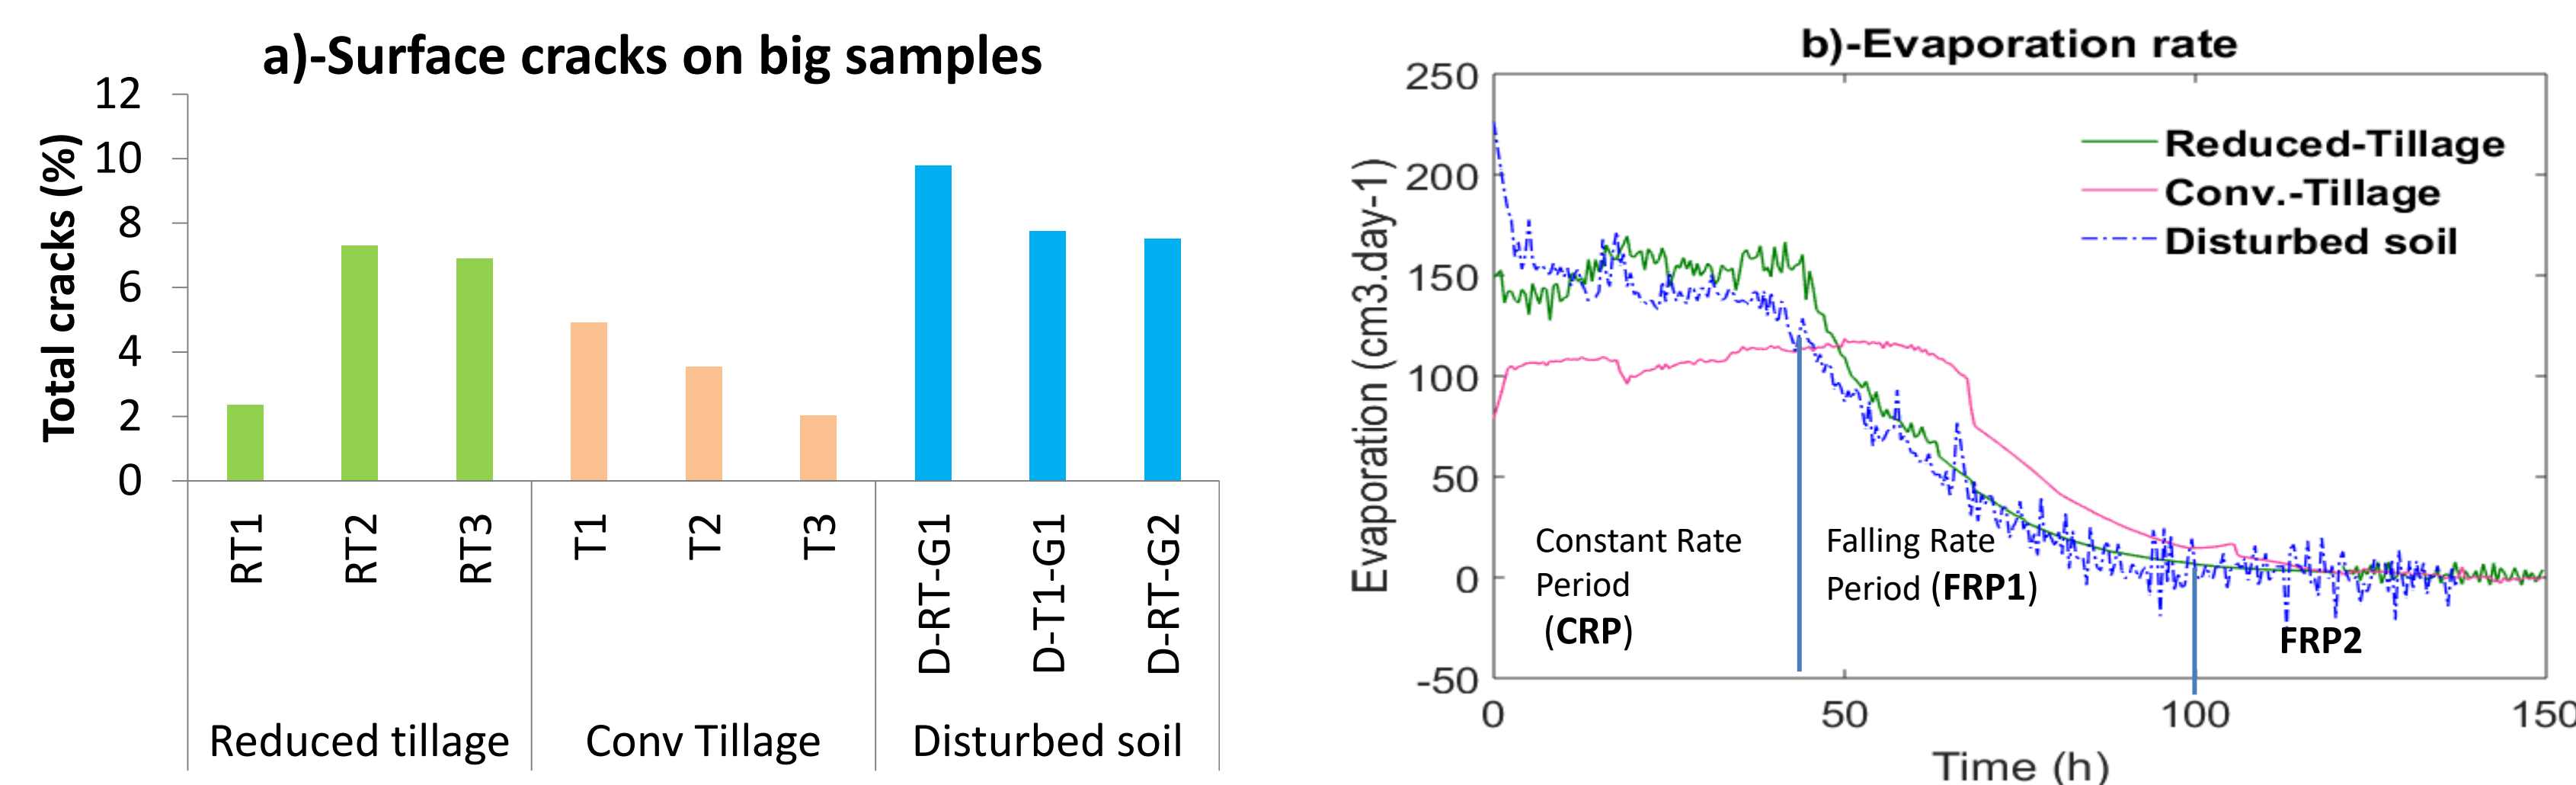

Figure 2: Cracks percentage (a), and soil evaporation rate (b) of big samples
- Cracks increased the surface of evaporation(Figure 2).